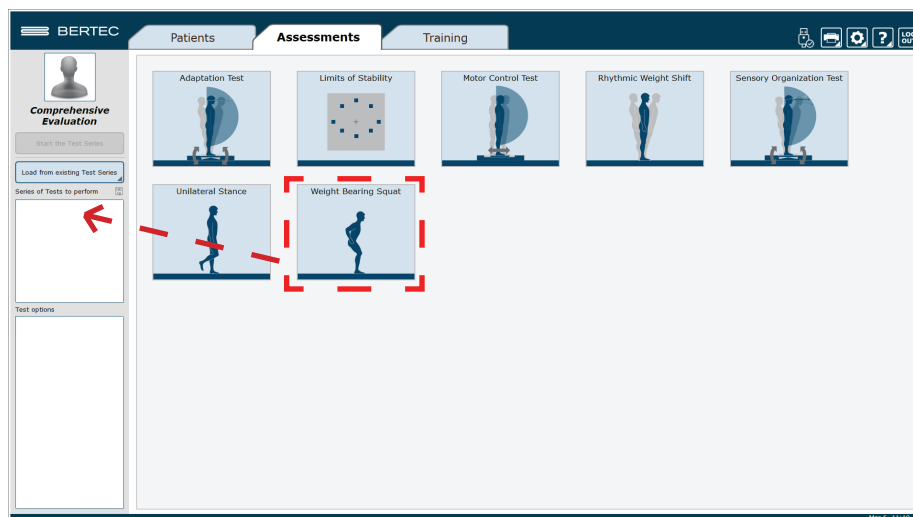

Figure 27: Assessment Tab: Test Setup.
2. To perform new assessments, click the *Assessments* tab, shown in Figure 27, then drag and drop the desired assessment(s) into the Test Series List, located on the left.